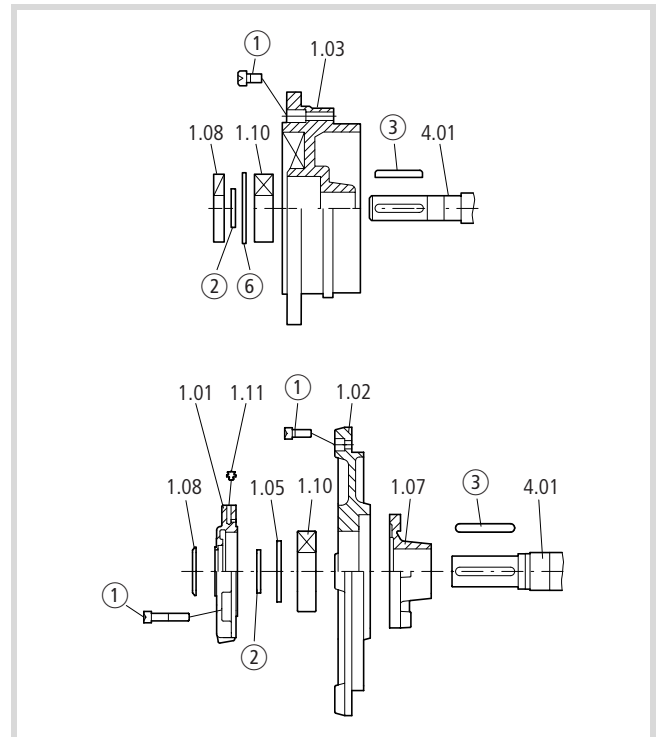

Figure 8: Position of DE shaft seal (1.08) and external DE bearing cover (1.01)
- ▶ Extract the DE featherkey ③ from the shaft.
- the retaining rings ② and up to FS 160 ⑥ (→ Fig. 8)